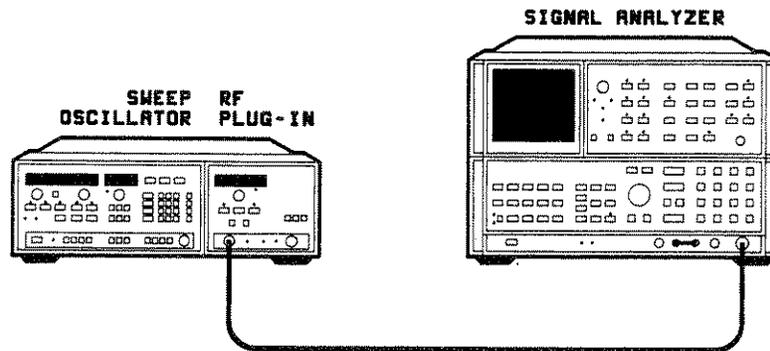

Figure 3-8. HP 83595C Front Panel Frequency Calibration Setup
1. Connect the equipment as shown in figure 3-8. Turn on the instruments and let them warm up at least 30 minutes.